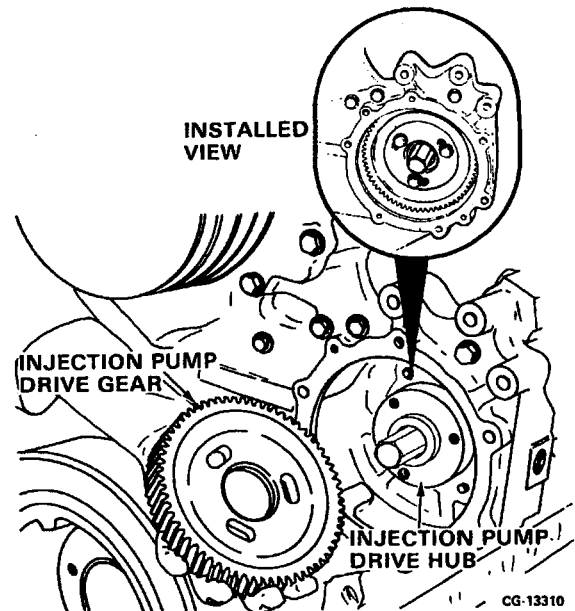

**Figure 11.75. Install Injection Pump and Adapter Housing Assembly to the Front Plate**
1. Install the injection pump and adapter housing assembly to the engine front cover plate using a new adapter housing gasket. Refer to **Figure 11.75**.